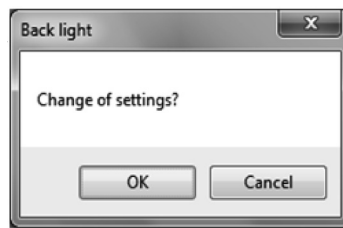

Fig.90
- ⑤ After the setting is complete, click the "OK" button to display a message box (Fig. 90).